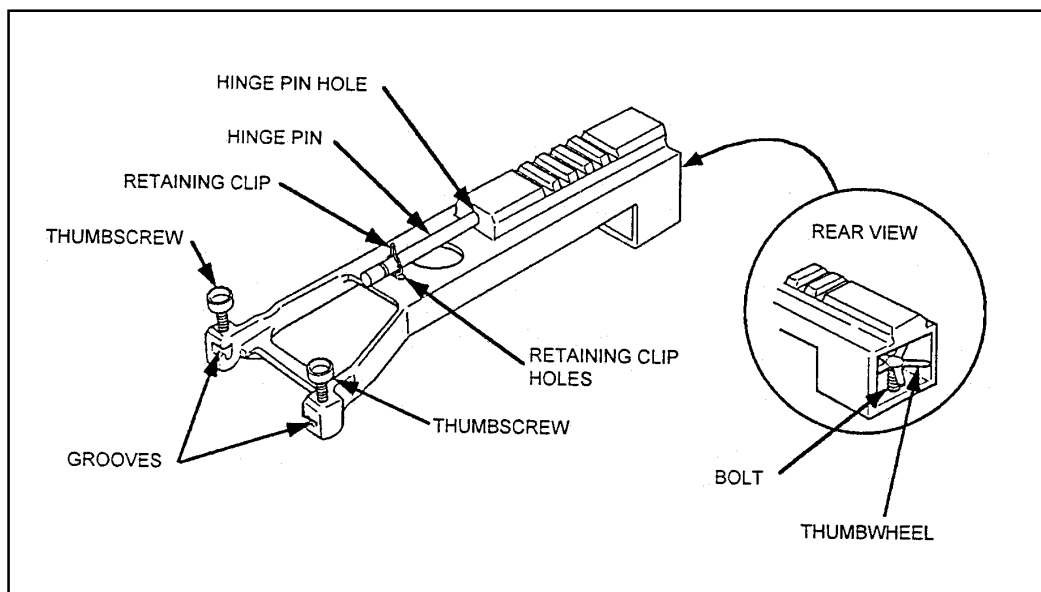

Figure G-27. M249 bracket.
- (d) Remove the retaining clip from the M249 mounting bracket (Figure G-27).